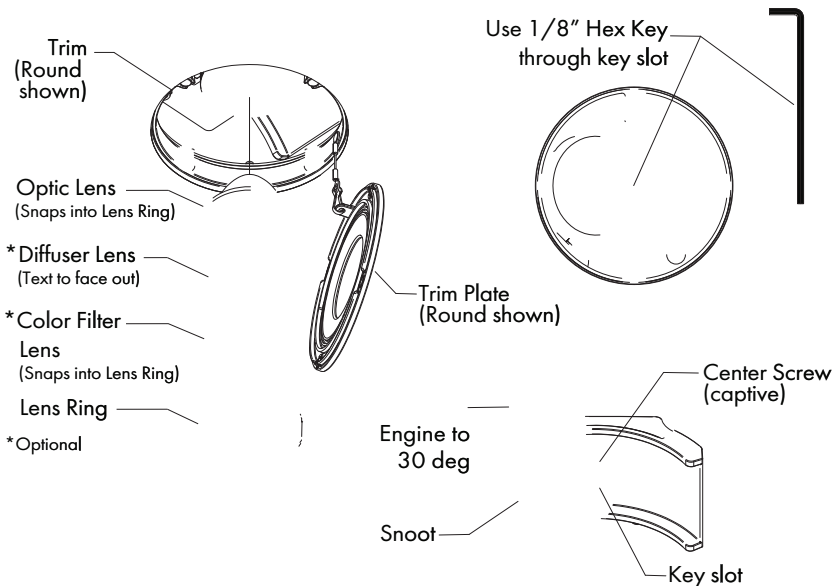
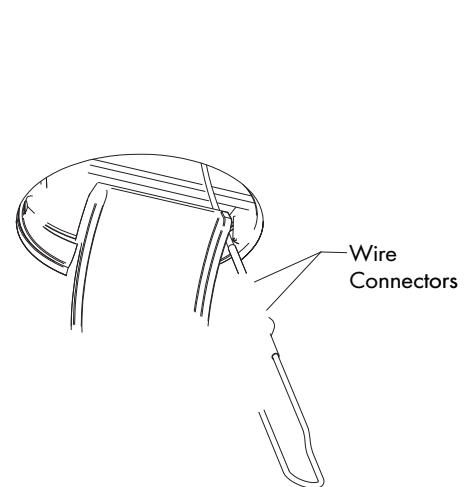

FIG 4.2 Loosen Module screw
FIG 4.3 Remove/Replace Module
Use Horizontal Lock Screw to secure the horizontal adjustment - **FIG 4.3**.
STEP 1 Remove Trim Plate & then unscrew & remove accessories. Loosen Stop Knob, if needed, & adjust Module to position slot over the center screw as shown - **FIG 4.2**.
STEP 2 Loosen center screw using 1/8" Hex Key through slot, Pull Module through & disconnect wire connectors - **FIG 4.2 & 4.3**.
STEP 2 Insert Module up through trim & connect wire connector. **Note:** Make sure not to trap wiring underneath- **FIG 4.3**. Follow removal instructions STEP 3 Fasten center screw into threaded hole - **FIG 4.2**.